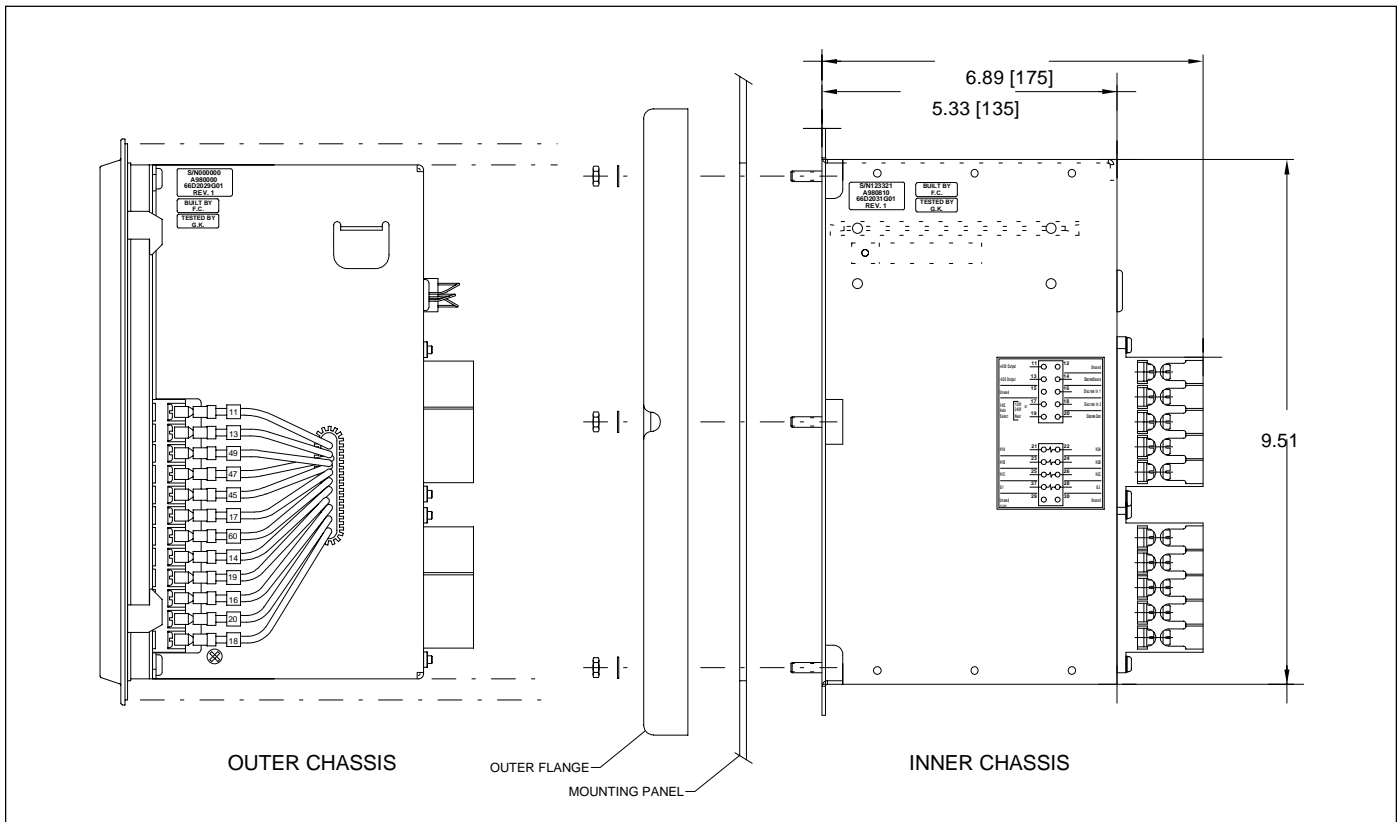

Fig. 13.3 MP-3000 Drawout Panel Mounting
Before mounting the Drawout Relay, check the contents of the box for the parts listed in Table 13.3 and shown in Figure 13.3.
2. Place the outer case flush against the backside of the panel so that the case studs project through their respective holes. Refer to Figure 13.3 for panel mounting diagram.